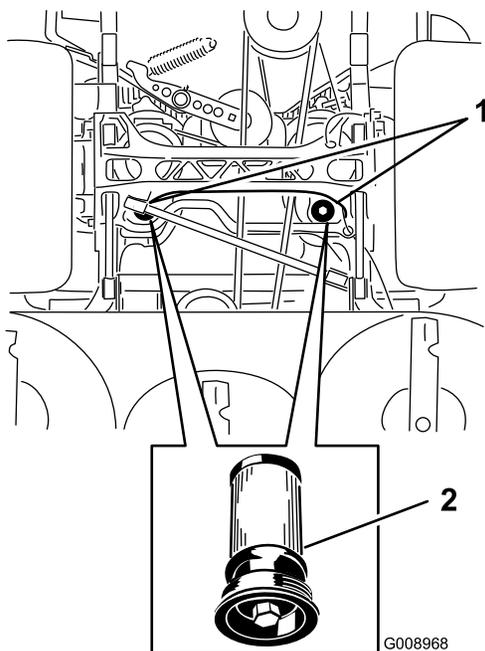

Figure 105
- Place a drain pan under the filter, remove the old filter, and wipe the surface clean (Figure 105).
- Apply a thin coat of hydraulic fluid to the rubber gasket on the replacement filter (Figure 105).